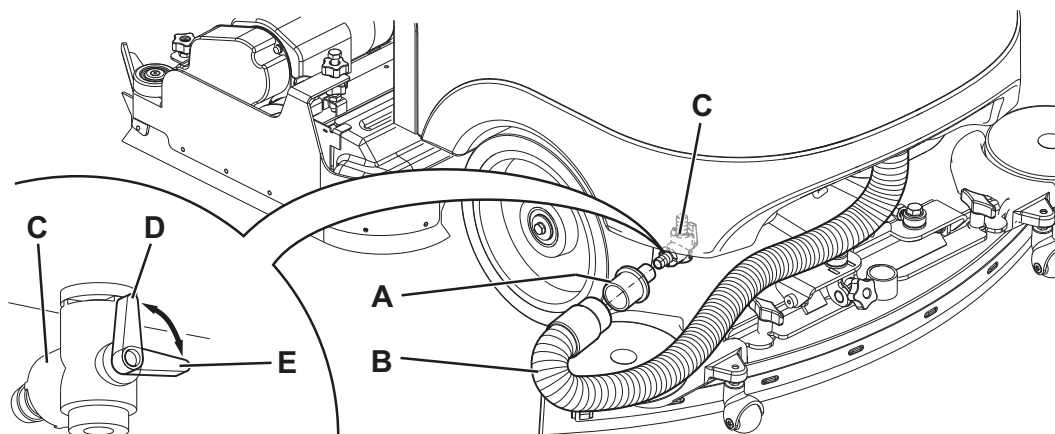

Figure 6
- Remove the adapter (45) from its housing inside the battery compartment.
- Install the adapter (A, Fig. 6) on the squeegee vacuum hose (B), then fasten it to the drain tap (C).
- Turn the ignition key (58) to "I" and turn on the vacuum system with the switch (65).
- Open the drain tap (C) to drain the tank (22).